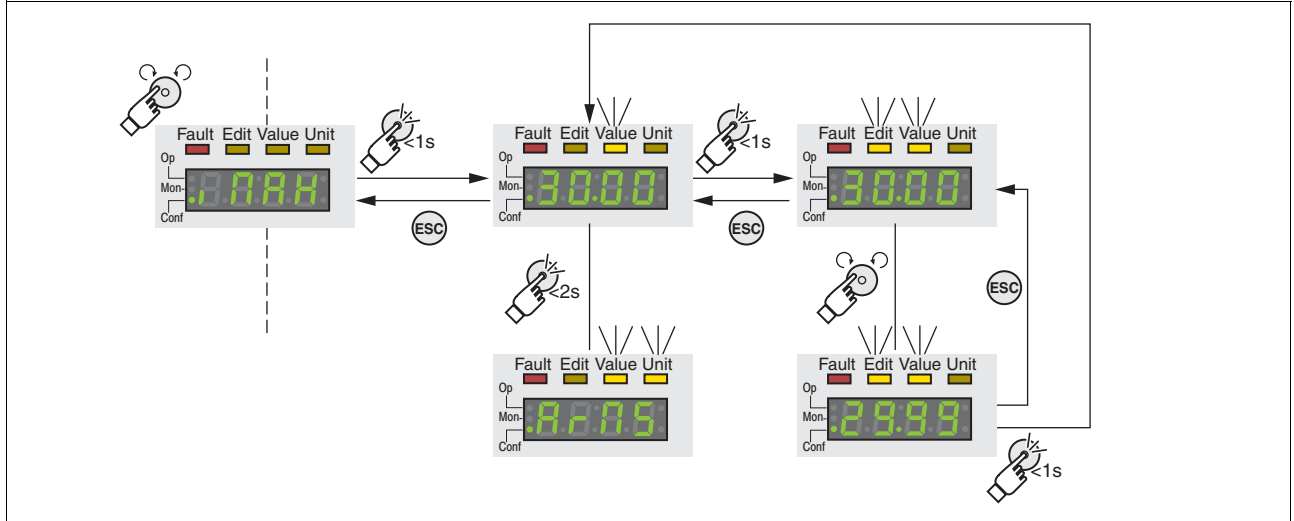

Figure 7.4 Integrated HMI, example of setting a parameter
- The parameter, *iMax* (iMax) is shown on the 7-segment display, see Figure 7.4.